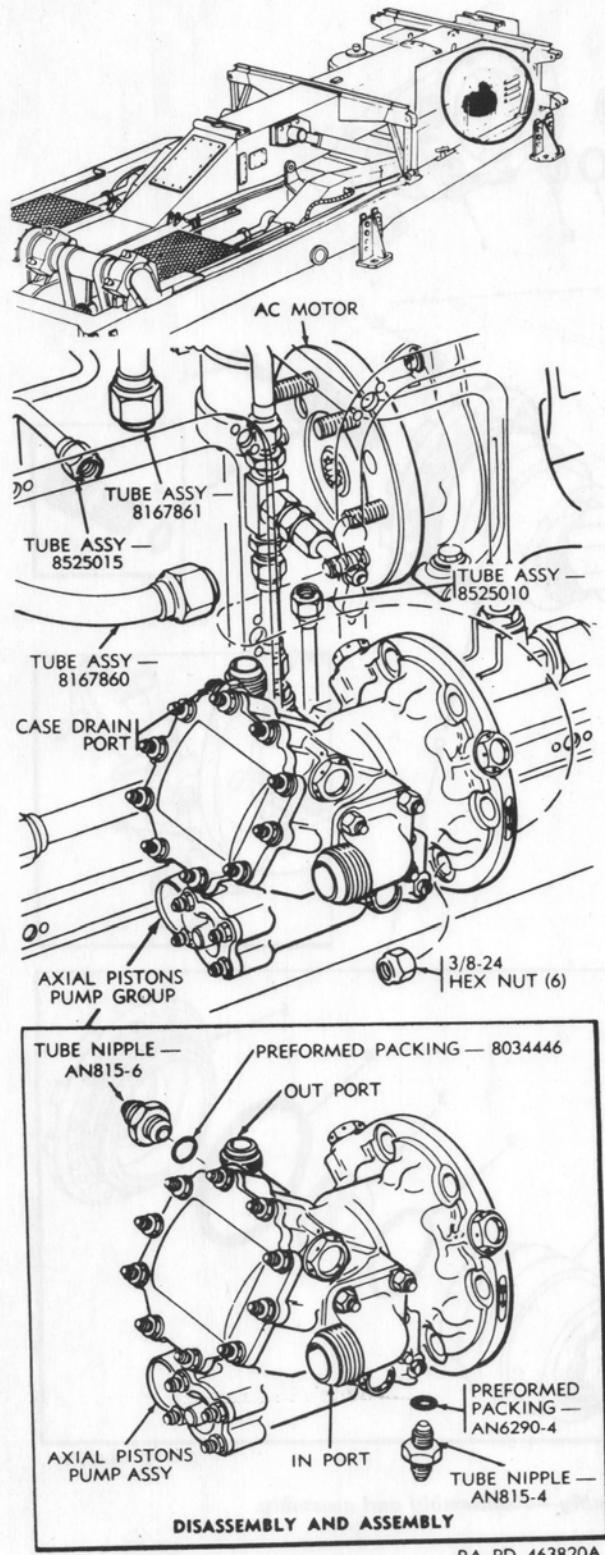

Figure 125. Axial pistons pump group—removal and installation.
- (d) Disconnect the four tube assemblies from the axial pistons pump group (fig. 125).
- (2) *Disassembly.*